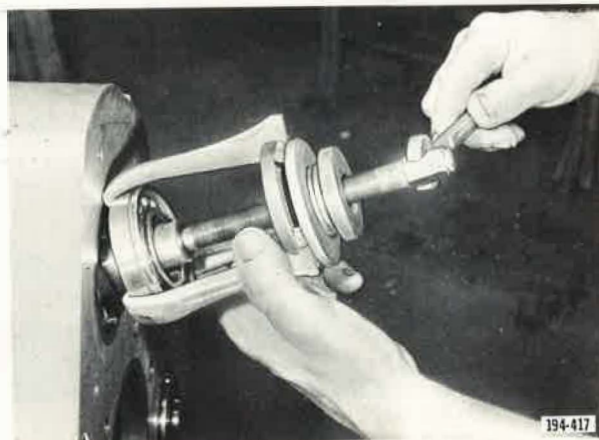

Figure 23. Removing Countershaft Rear Bearing
6. Slide the three rear countershafts rearward and partially through rear bearing opening. Install puller on countershaft rear bearings and remove. See Figure 23. Then remove the three rear countershaft assemblies from case.